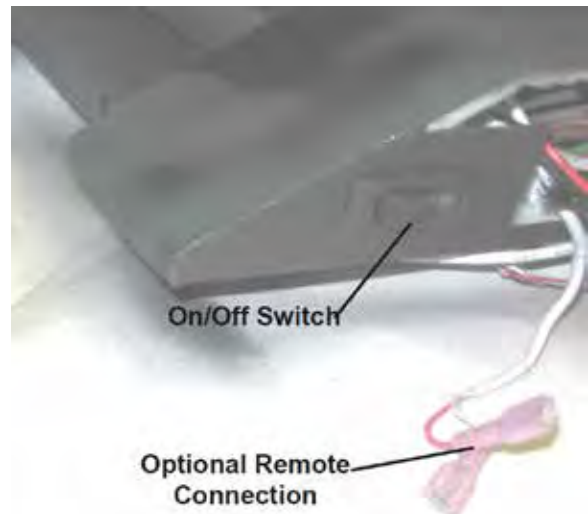

Figure 7.2 On/Off Switch and Remote Connection
- The On/Off switch is located on the front right side of the burner assembly as shown in Figure 7.2.
- The supplied remote control can be incorporated with this system by connecting the remote wires to the connection wires shown in Figure 7.2.